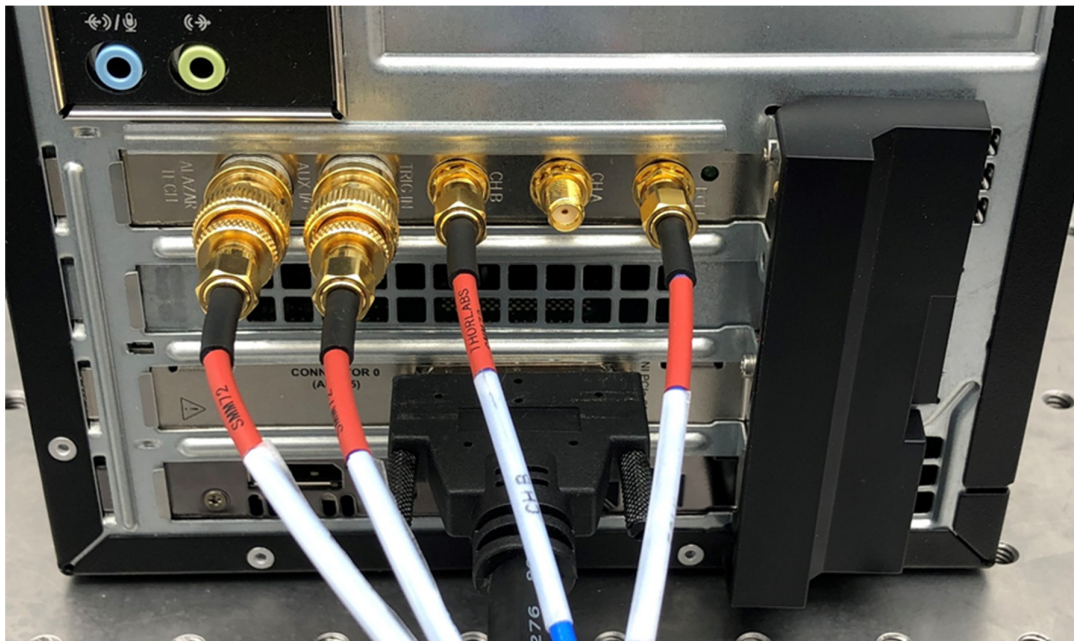

Figure 13 Connections of the Alazar (top) and NI DAQ (bottoms) Cards
10) Connections at the PC (see Figure 13):
- Identify both the ATS9351 or ATS9360 DAQ card, and the NI PCIe-6351 DAQ card at the back of the PC (see Figure 13).